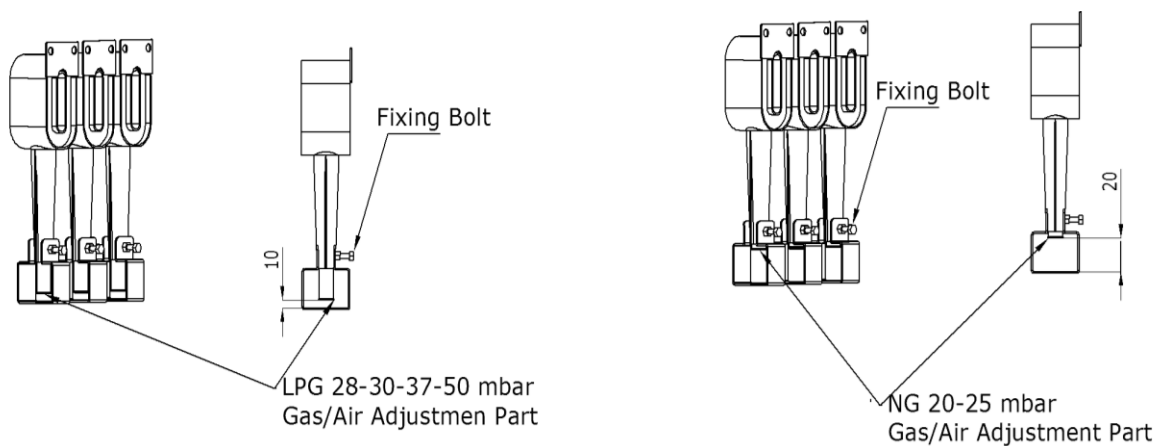

Figure 1
2. Replace nozzle (3) with a nozzle suitable one for the gas type.
3. Adjust the pilot flame (1) by turning bolt nut (2)
- The venturi (Gas/Air tube) adjust part gap should be 10 mm for LPG gas type, 20 mm for NG gas type. (Fig.1)